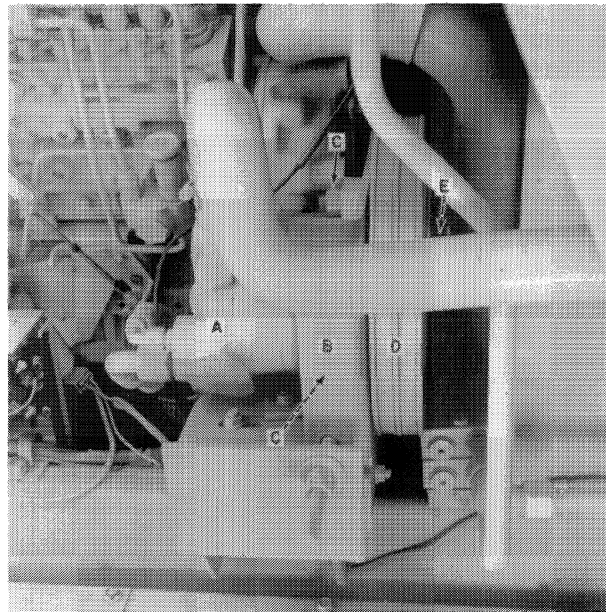

FIGURE 2C-21
1. Attach the hydraulic pump, A, Figure 2C-21, to mounting bracket, B, with bolts, C.
2. Install sheave, D, Figure 2C-21, and secure with nuts, E.